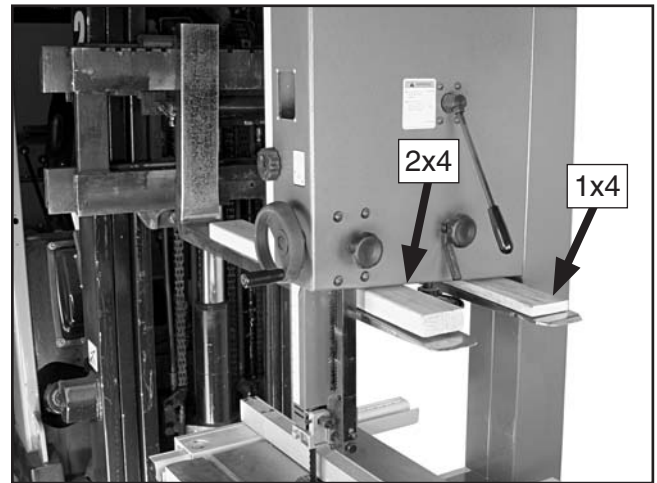

Figure 20. Example of lifting bandsaw with forklift using wood shims.
3. Carefully place the forklift forks under the head and install a 1x4 shim between the head and the left fork and a 2x4 shim between the head and right fork so the bandsaw is level, as shown in **Figure 20**.